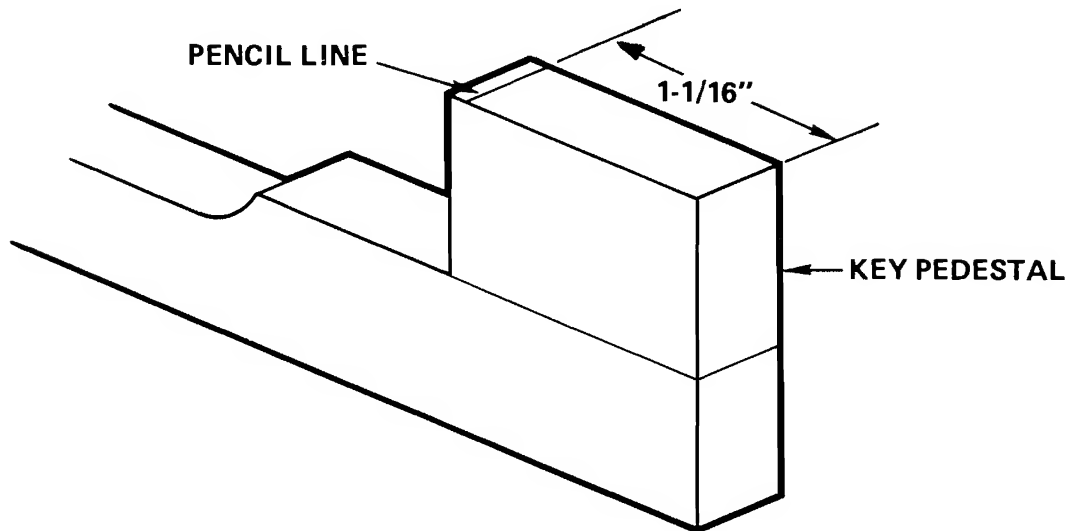

Figure 6-4. Key Pedestal — Pencil Line Dimension
10. Scribe a pencil line along the top of each Key Pedestal $1\text{-}1/16''$ (26.988mm) from the rear surface farthest from the Key Cap (Figure 6-4).